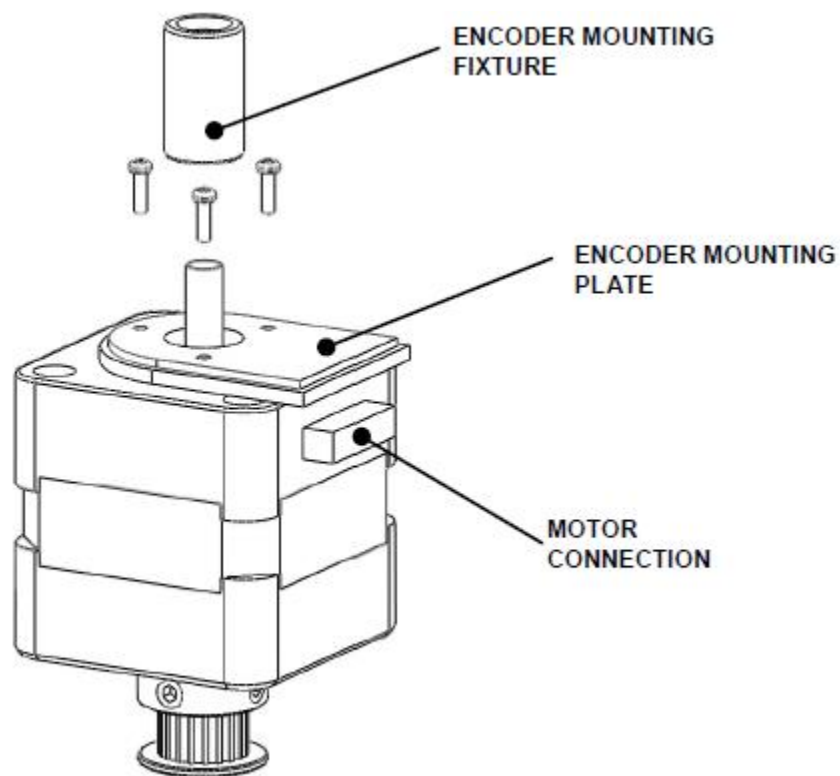

Figure O-29: Mounting the Encoder Mounting Plate
2. Attach the Mounting Plate, part of the Encoder (to the motor with the Encoder Mounting Fixture (DSXFIX015) using three M1.6X6 Pan Head Screws. Ensure that the mounting plate is centralized around the pulley idler shaft and the motor cable (part of motor assembly) is plugged into the motor. (Figure O-29)